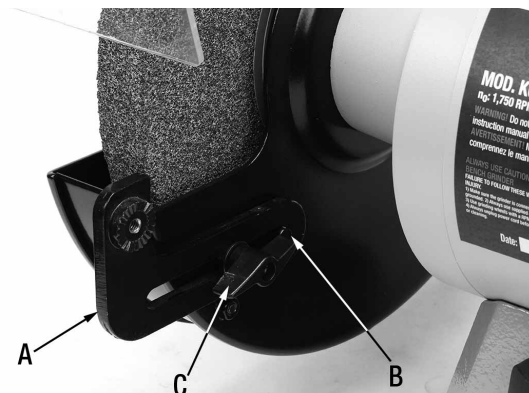
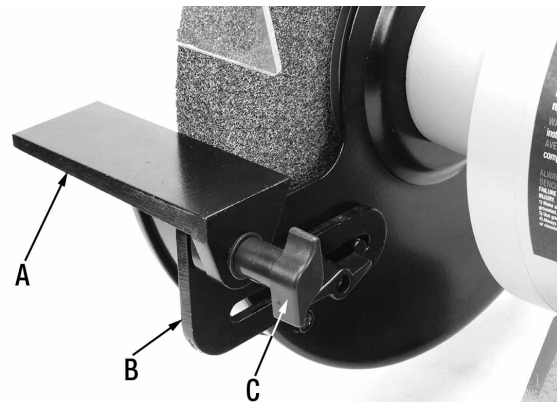

FIGURE 6
FIGURE 7
1. Install the left side tool rest support (A) Fig.6 over the pin (B) on the side of the grinding wheel guard and secure it using a washer and short lock knob (C).
2. Install the tool rest (A) Fig.7 to the tool rest support (B) with a washer and long lock knob (C) as shown.
3. Adjust the tool rest (A) Fig.7 to ensure the inner edge is 1/16" away from the grinding wheel. Loosen lock knob (C) Fig.6 and adjust tool rest position.